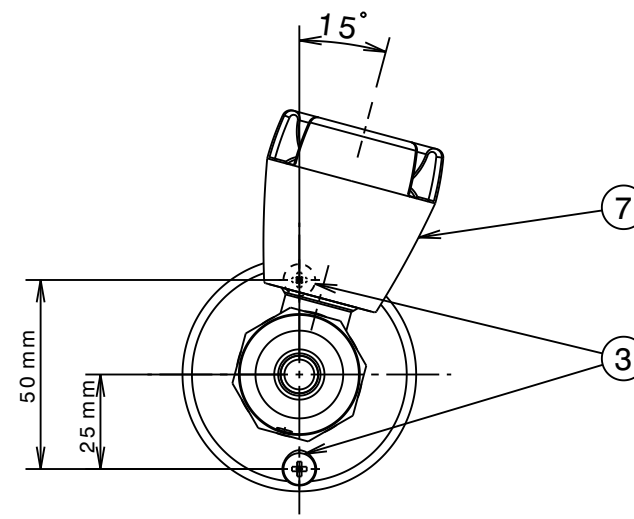

Fig.2
- 2) Mark the position for wall plugs (5) at a distance from the threaded nipple (1) vertically. (As shown in Fig 2.)
- ii) Insert tapered end of wall plugs (5) into drilled hole and tap until flush with surface.
- 4) Screw the bubbler assembly (4) onto the threaded nipple (1) until its base is adjacent to the wall surface and the screw hole in the base of bubbler is aligned with wall plug (5), where the spout (7) center is 15° from vertical line. (See Fig. 2).
- 5) Pass two screws (3) through the hole in base of bubbler (4) and insert into wall plugs (5), then tighten with Phillips screwdriver until the bubbler assembly (4) is mounted securely against the wall/tile face.